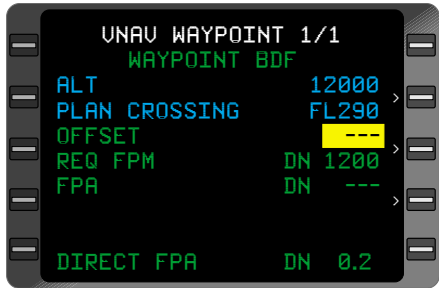

Figure 3-134
- 7. **ENTER** Key - DEPRESS. Cursor moves to **OFFSET** field. (Figure 3-134)